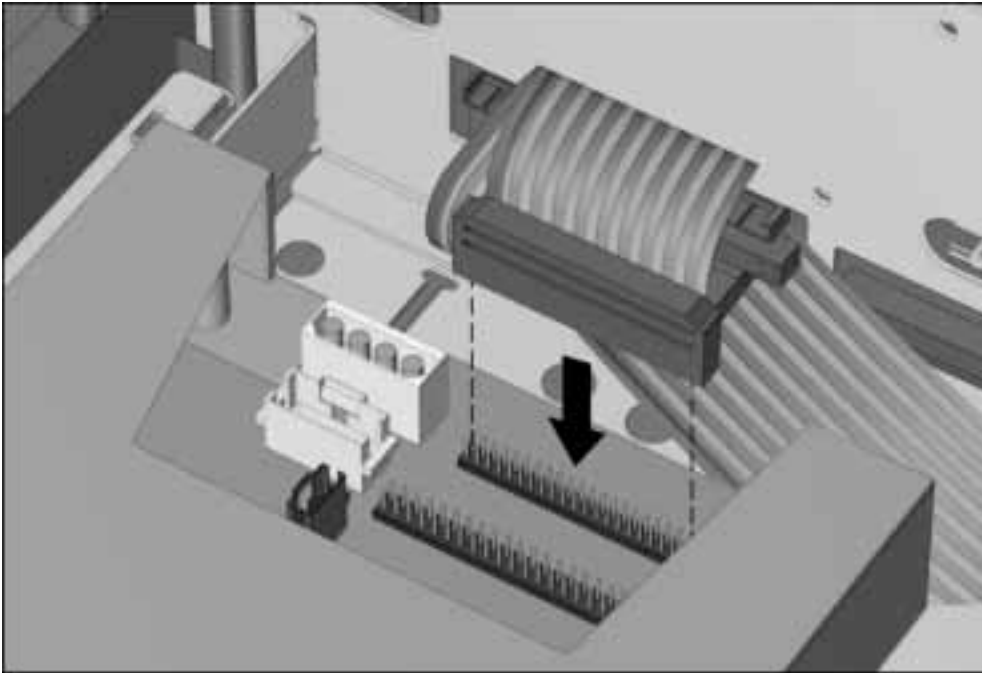

Figure 5-27. Connecting the Diskette Drive Cable to the Armada 7000 Half-Height MultiBay Adapter
10. Connect the diskette drive cable to the diskette drive connector on the half-height MultiBay adapter (Figure 5-27).